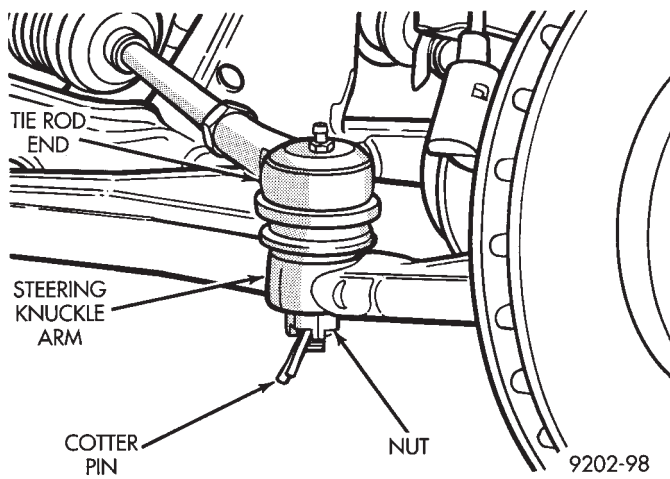

Fig. 15 Install Tie Rod End
(7) Install the tie rod end into the arm of the steering knuckle. Install the tie rod end to steering knuckle attaching nut, and torque to 47 N•m (35 ft. lbs.). Install a new cotter pin into the tie rod end (Fig. 15).